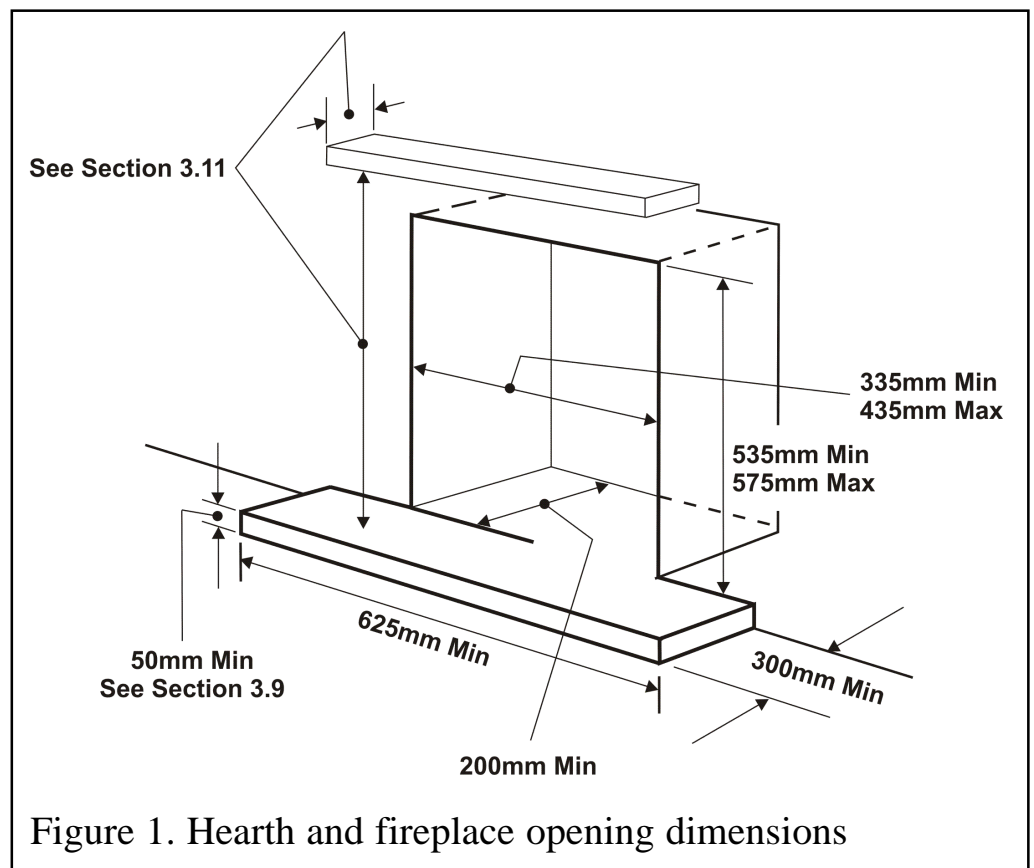
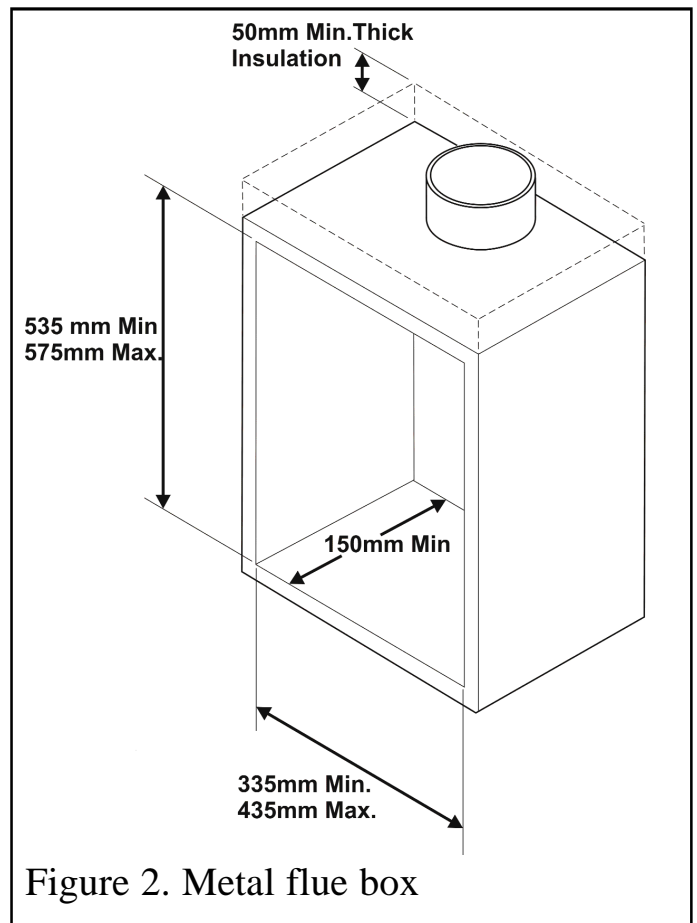

Figure 1. Hearth and fireplace opening dimensions
Figure 2. Metal flue box
- It is recommended that a hearth should be installed as in figure 1.
3.2.2 To a fireplace incorporating a metal flue box conforming to BS EN 1856 Part 1 or BS 715 with a minimum internal depth of 150mm. Incombustible mineral wool insulation of not less than 50mm thickness must be applied to the top surface of the hotbox (See figure 2) and it must stand on a non-combustible hearth (See figure 1).
The appliance must not stand on combustible materials or carpets (See figure 1).